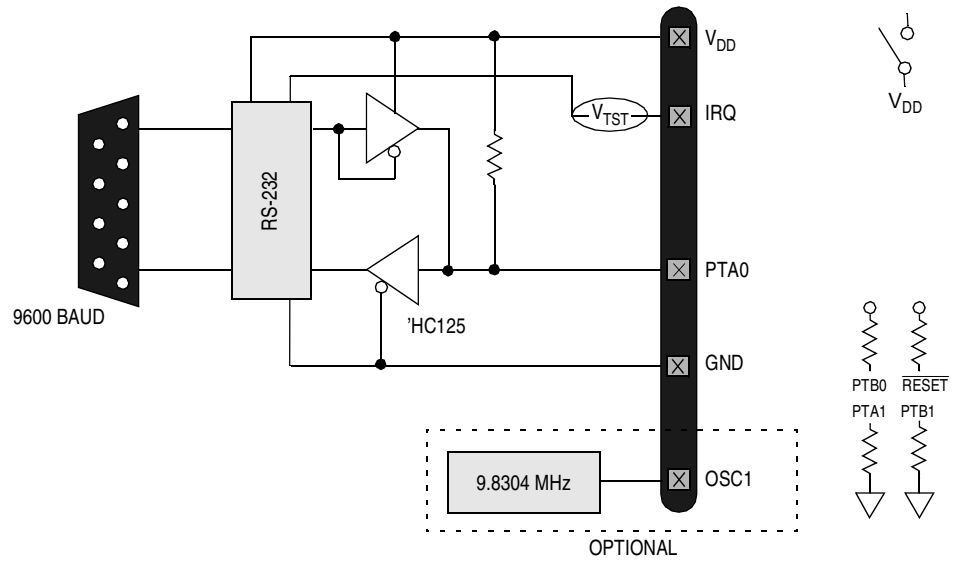
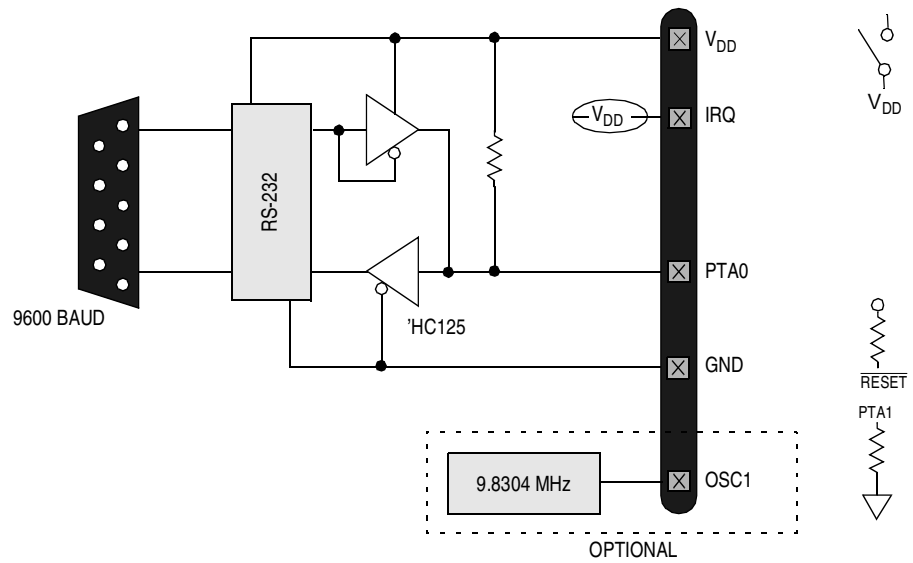

Figure 3. MC68HC908KX2/8 Standard Monitor Mode (9.8304 MHz)
Figure 4. MC68HC908KX2/8 Forced Monitor Mode (9.8304 MHz)
- c. RS-232 communications circuit. Also needed is a 5-volt power source to power this circuit. (see Figure 3 and Figure 4)
2. Connections (see Figure 3):
- a. Blank part with oscillator from Table 2. See Figure 4.